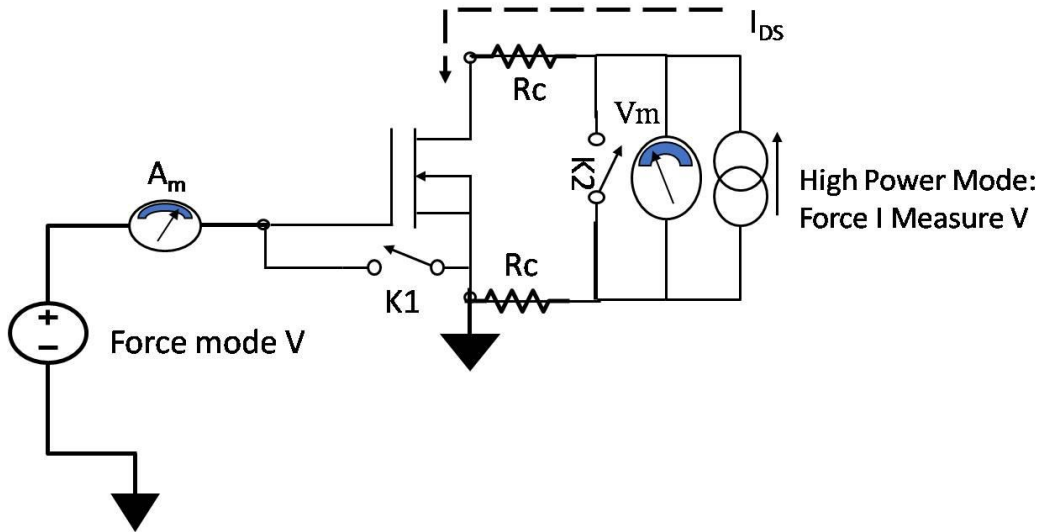

Figure 2.2
- (b) The MOSFET test plan and datasheet for drain to source ON resistance test, r_{DS} , is shown in Figure 2.2. Assuming the contact resistance, $R_C = 0.1 \Omega$, discuss the potential issues with this test plan. Given;